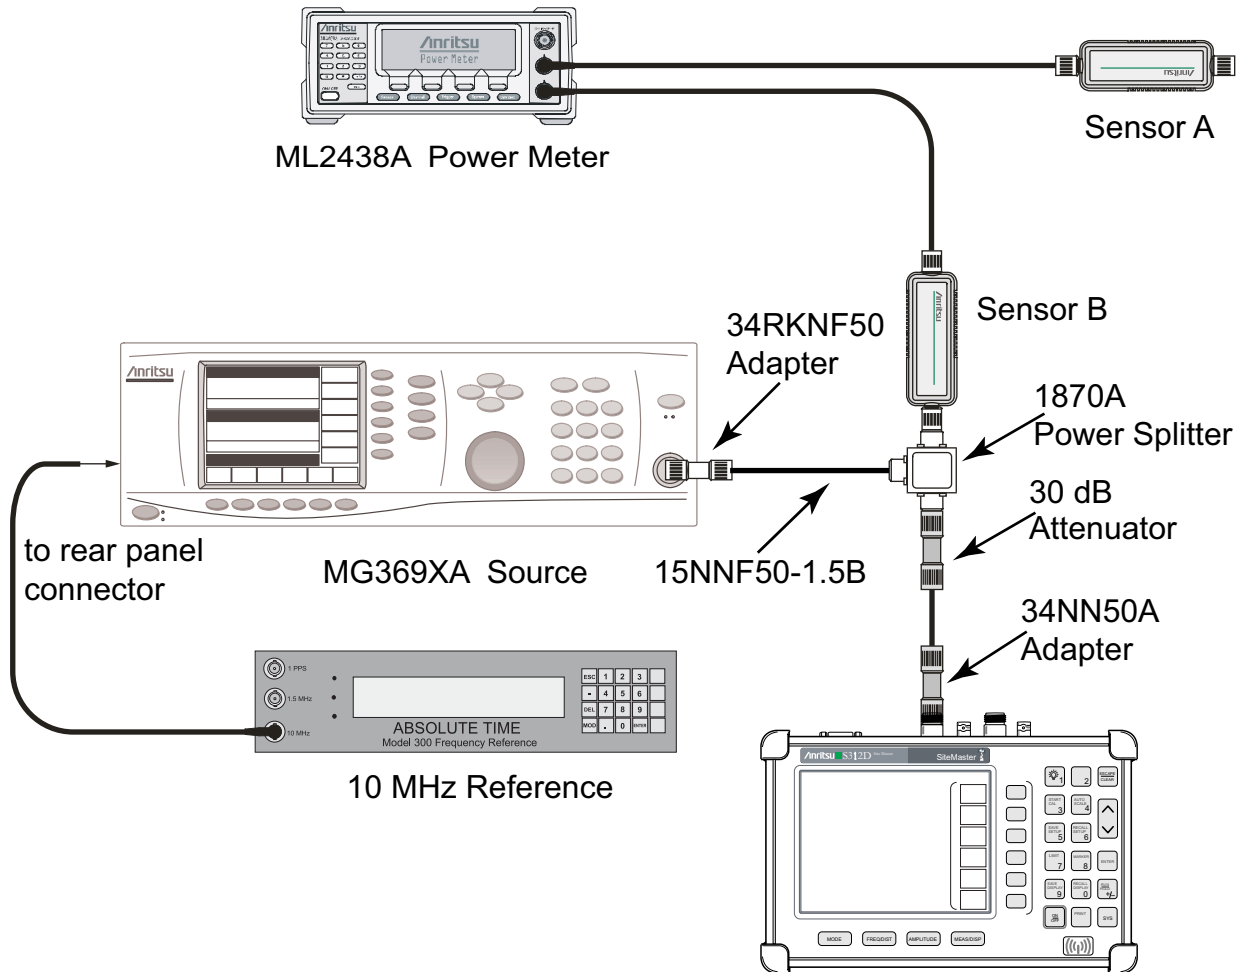

Figure 2-9. Spectrum Analyzer Level Accuracy Verification Test Setup — 30 dB Attenuator
32. Using the power splitter, coaxial cable, adapters, and 30 dB fixed attenuator, connect the Site Master to the signal source and the power sensor as shown in Figure 2-9.